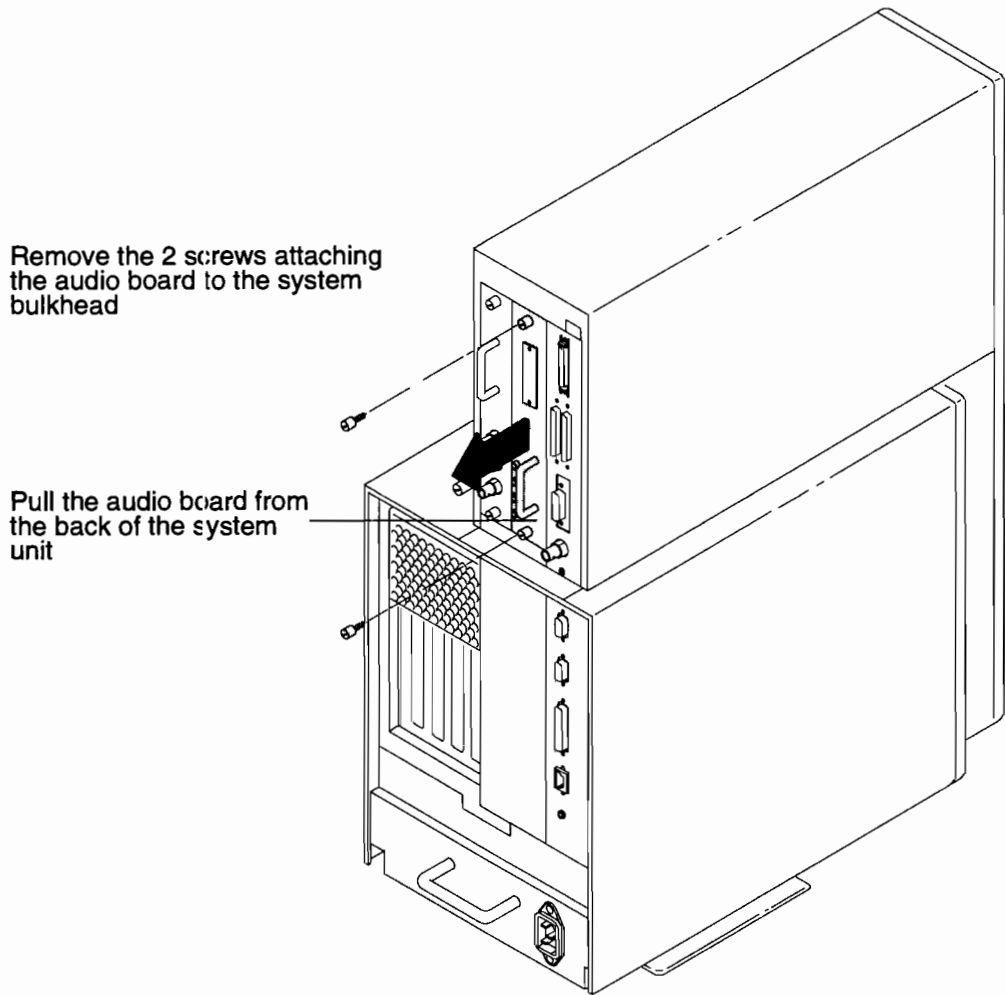

Figure B-1. Removing the Audio Board
1. Use a straight slot screwdriver to remove the two screws that hold the audio board to the system bulkhead, as shown in Figure B-1.